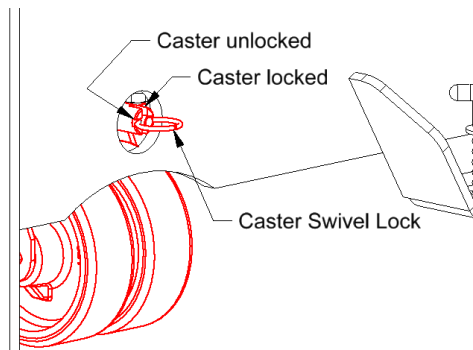

Figure 37
- c. If the rear Caster Swivel were unlocked, push unit forward enough to approximately align the casters with the frame, then pull the Caster Lock Ring out and turn Ring to the vertical position. See figure 37. Caster locks will engage when rolled forward and casters are fully aligned.